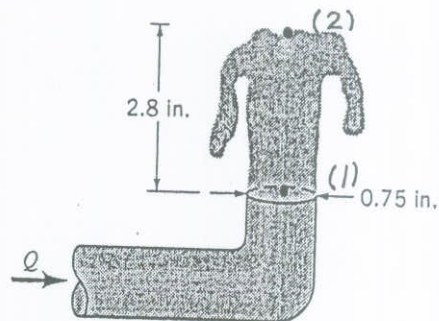

FIGURE P3.45
3.45 Water flowing from the 0.75-in.-diameter outlet shown in Video V8.1# and Fig. P3.45 rises 2.8 inches above the outlet. Determine the flowrate.